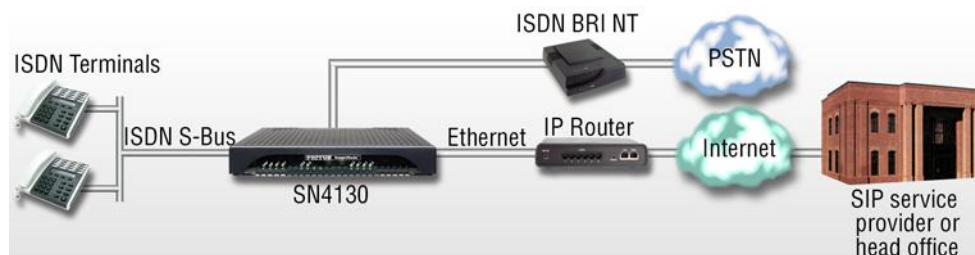

Figure 4. How it works
1. Connect the SmartNode to the PSTN and legacy PBX (see figure 4), and configure the call router to pass all calls from the PBX to the PSTN and vice versa. This first step will not affect any uses in the enterprise